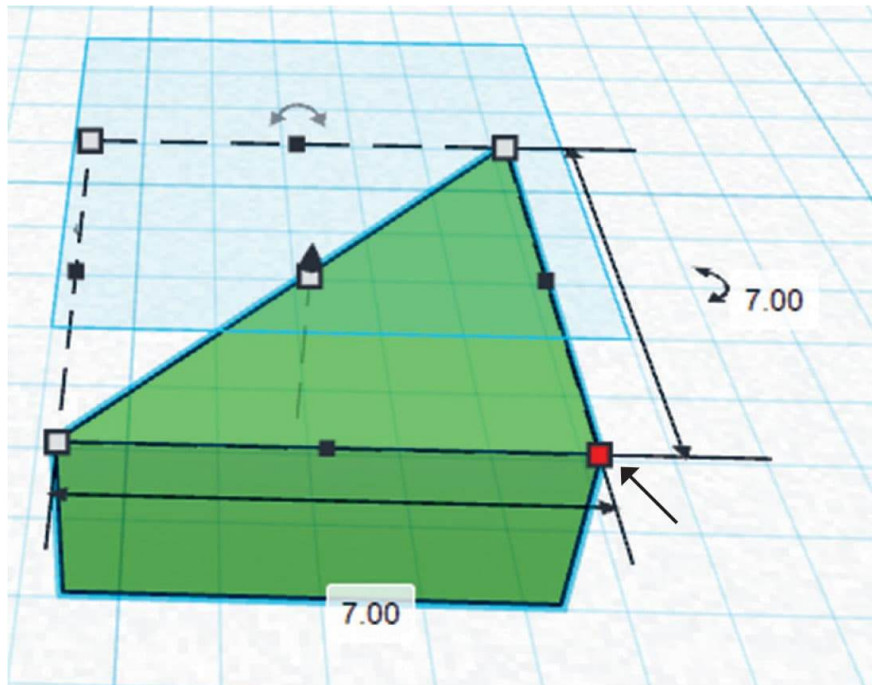

FIG. 5: Adjust the size of the triangular prism sides to 7 mm.
4. Enlarge the triangular prism so that both of the sides that form the right angle are 7 mm (fig. 5). Make a copy of this small triangle, and then move the two copies to one end of the workplane.